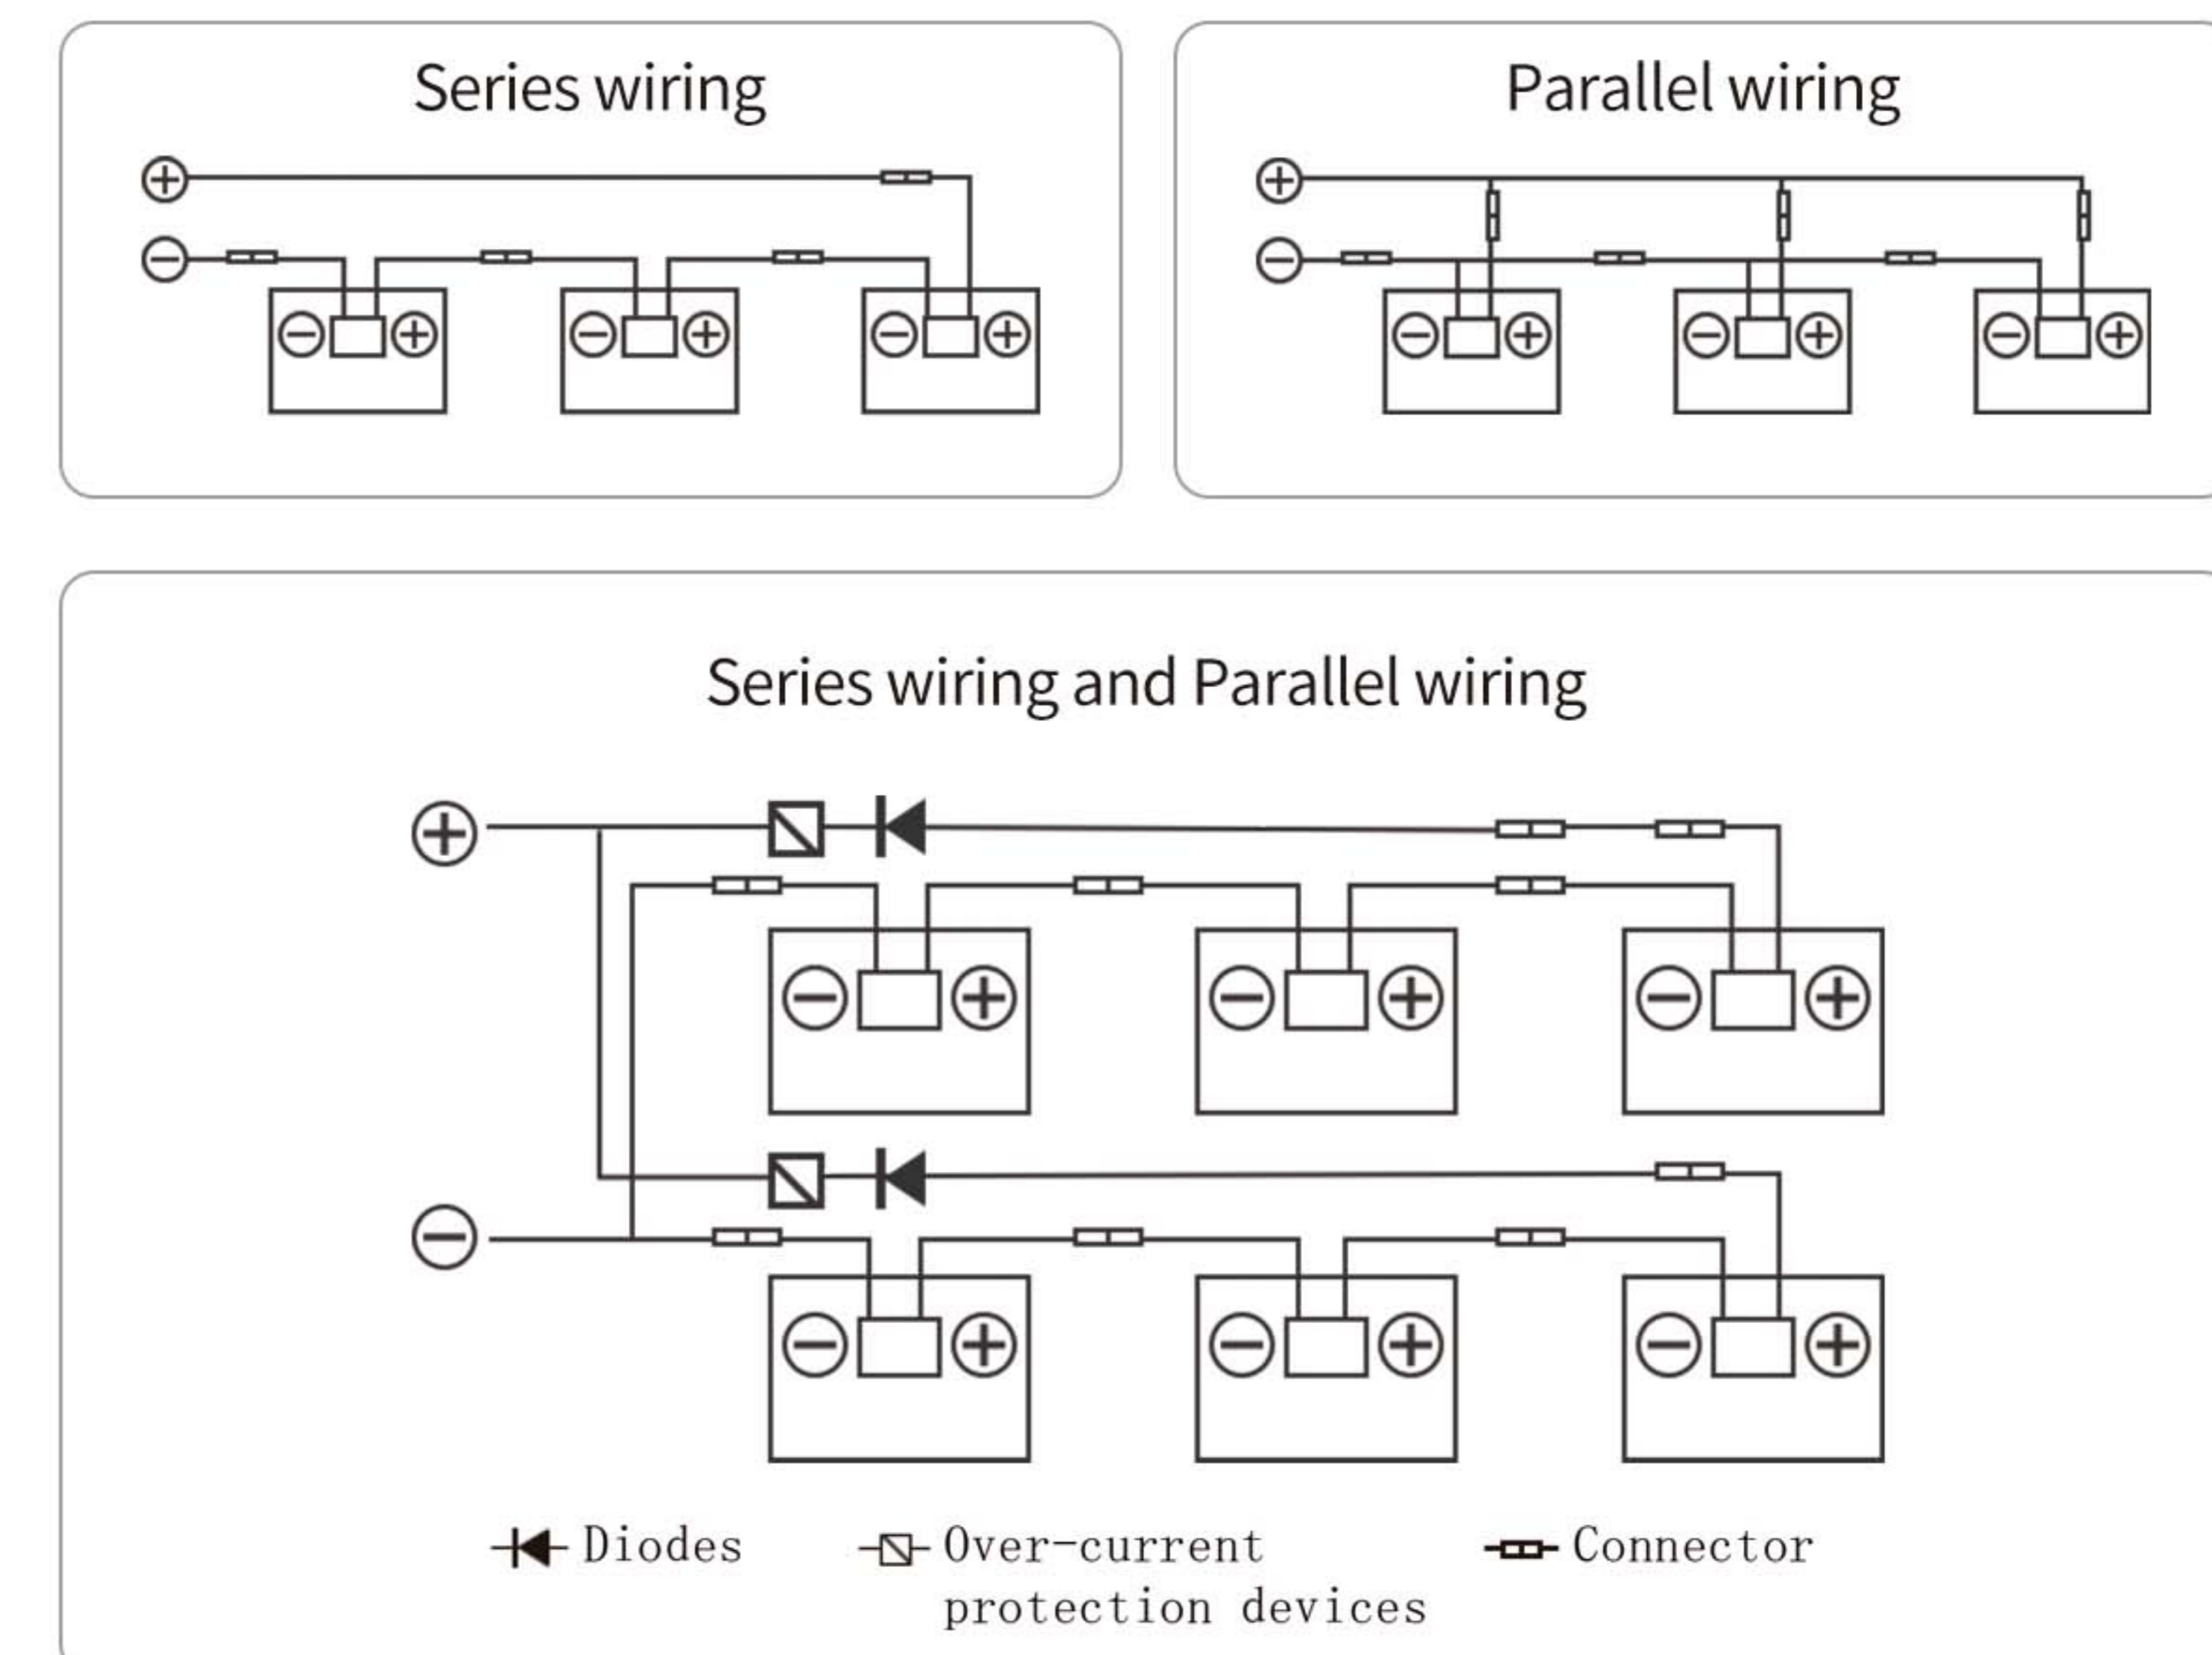

Figure 3
- 4.10** Voltages are additive when modules are connected directly in series, and modules currents are additive when modules are connected in parallel, as illustrated in Figure 3. Modules with different electrical characteristics must not be connected directly in series.